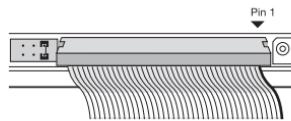

Fig. 6
- ⑧ Mount the drive to your computer's chassis using the existing mounting hardware, or the provided screws (refer to your computer's documentation).
- ⑨ Connect the interface cable, making sure the red stripe matches Pin 1 on the drive. If your drive is set to MASTER, connect it to the endmost connector on the cable. [Fig. 6]